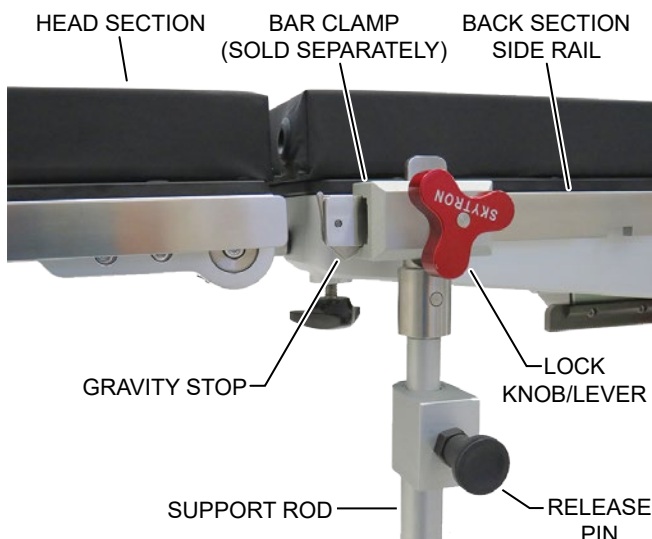

Figure 2. Support Rod Attachment
1. Attach the bar clamp to the back section side rail (Figure 2).